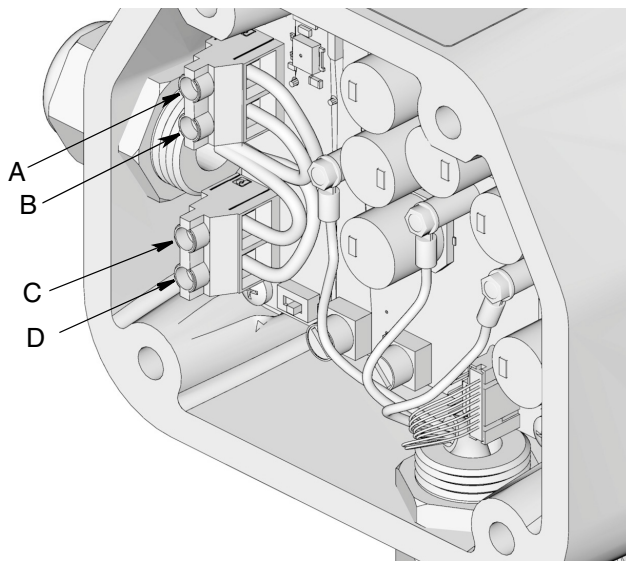

FIG. 65
7. Disconnect sensor (117c) from control board (FIG. 65).
8. Disconnect source to power input (A and B, page 12) and pump control connections (C and D, page 12) (FIG. 65 and see Control Panel, page 12).
2. Connect source to power input (A and B) and pump control connections (C and D) (FIG. 65 and A,B,C,D, page 12).